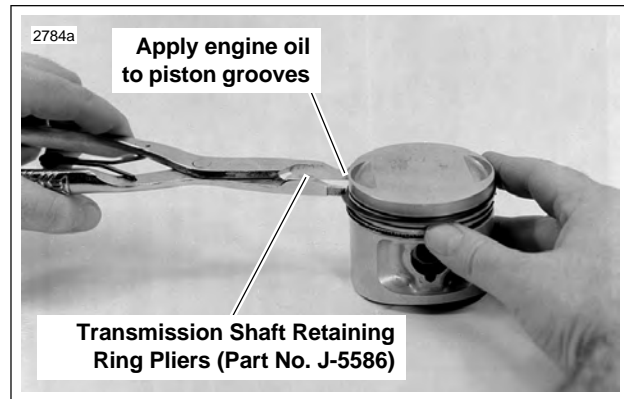

Figure 3-35. Installing Piston Rings
2. See Figure 3-35. Apply engine oil to piston grooves. Use TRANSMISSION SHAFT RETAINING RING PLIERS (Part No. J-5586) to slip compression rings over piston into their respective grooves. Be extremely careful not to over expand, twist rings or damage piston surface when installing rings.